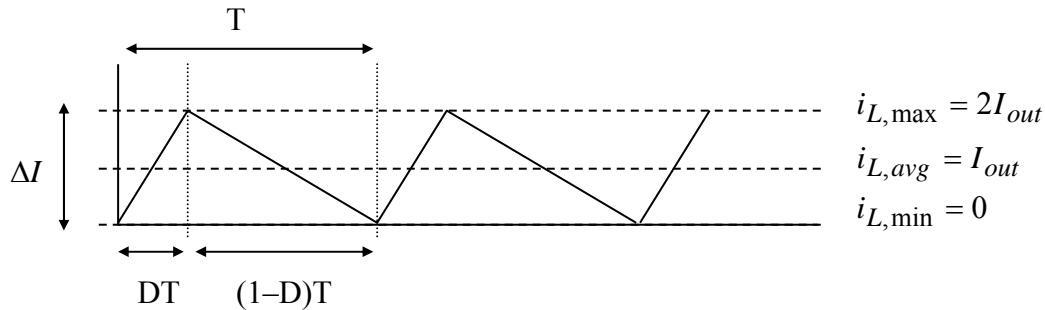

Figure 5. Inductor Current at the Boundary of Continuous Conduction
The boundary of continuous conduction is when $i_{L\min} = 0$, as shown in Figure 5.
As shown, when at the boundary, $\Delta I = 2i_{L,avg} = 2I_{out}$. Using Figure 5 and the “inductor discharging” slope in (3), we get